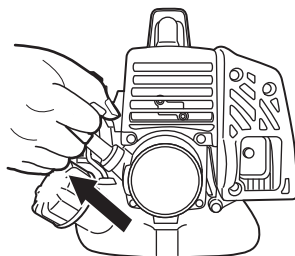

Fig. 18
- (4) Pull recoil starter briskly, taking care to keep the handle in your grasp and not allowing it to snap back. (Fig. 18)
(6) Pull recoil starter briskly again. (Fig. 18)